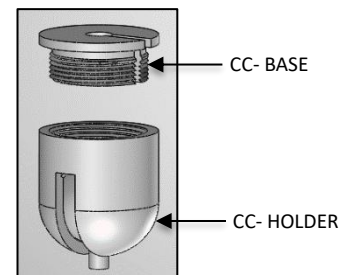

FIG. 7 - CEILING COUPLER ASSEMBLY
2. Dis-assemble the CEILING COUPLER into two components CC-BASE, CC-HOLDER as shown in FIG. 7.